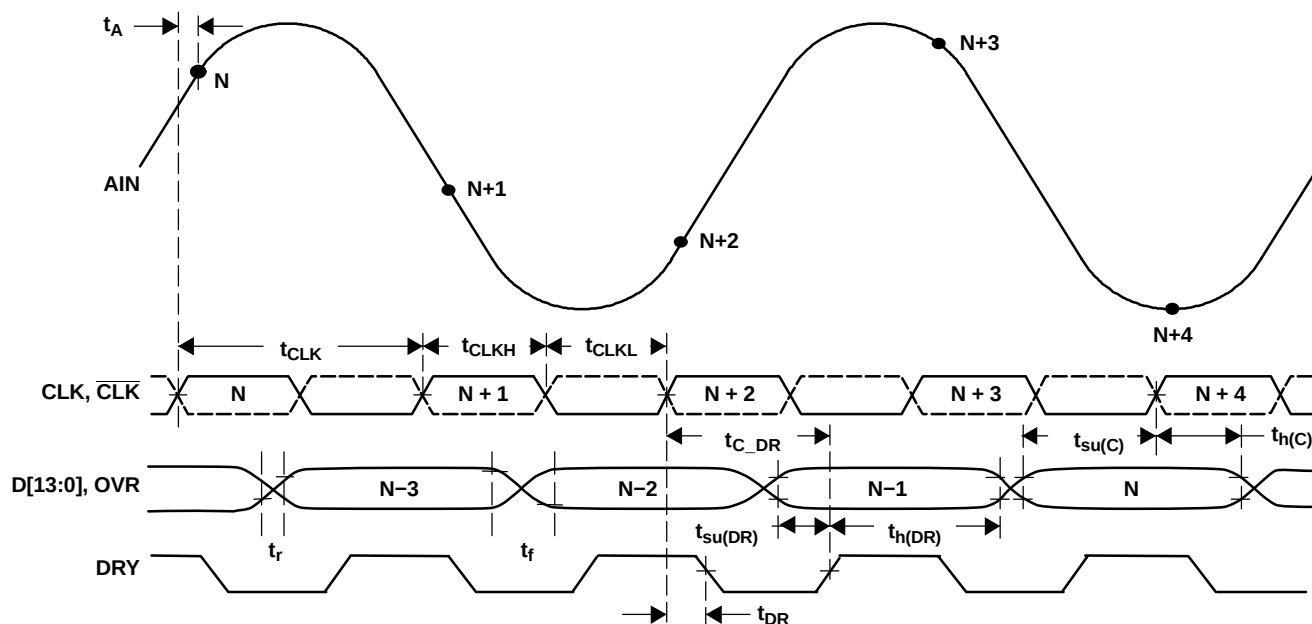

Figure 1. Timing Diagram
(1) See Figure 1 for more information.
(2) See V_{OH} and V_{OL} levels.
(3) All values obtained from design and characterization.
(4) Data is updated with clock rising edge or DRY falling edge.